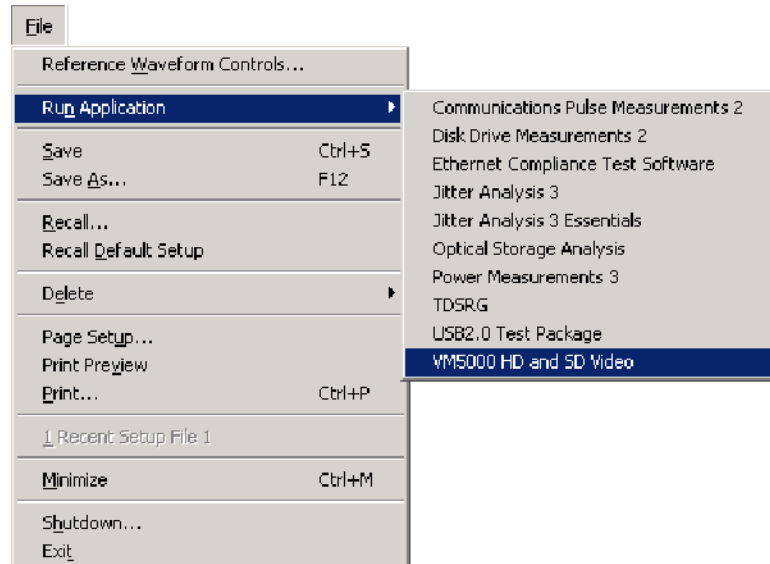

Figure 2: Run Application submenu with VM5000 listed
4. Verify that **VM5000 HD and SD Video** appears on the menu. Figure 2 shows a sample list of applications.